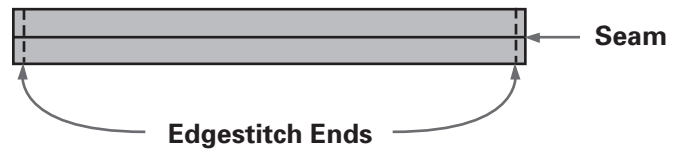

Fig. 6-6
- To make each handle, press the short ends of the strip under $\frac{1}{2}$ inch (1.3 cm). Fold the strip in half lengthwise with right sides facing and sew the long edges together. Turn the strips right side out and press with the seam in the center. Edgestitch the short edges closed. (Fig. 6-6)